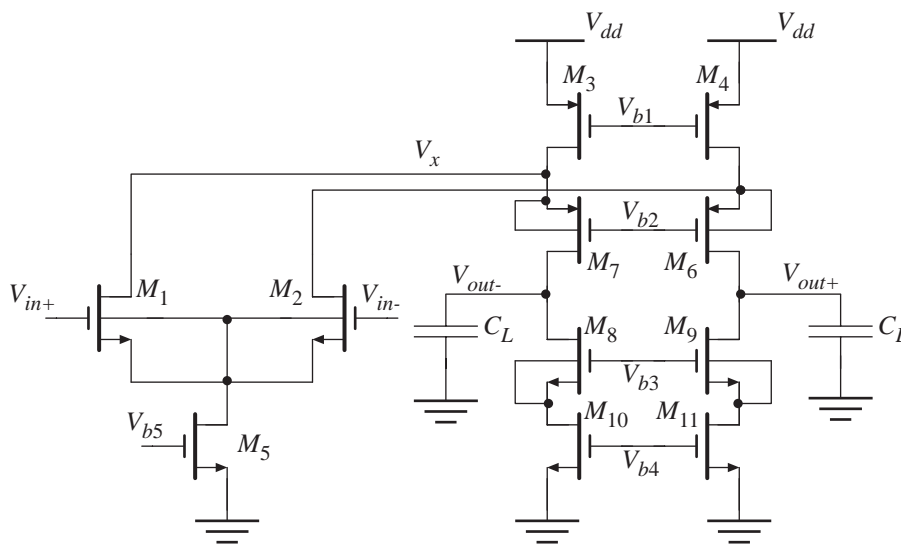

Figure 2.1 A folded cascode gain stage.
a) Derive the differential voltage DC-gain and the first pole of the circuit shown in Figure 2.1. No parasitic capacitances need to be considered. (4p)
b) The second pole arises from the parasitic capacitance in node V_x in Figure 2.1. The expression for this pole is $p_2 \approx g_{m7}/C_x$ where C_x is the parasitic capacitance in node V_x .
c) What is slew-rate? Derive the slew-rate of the circuit in Figure 2.1.